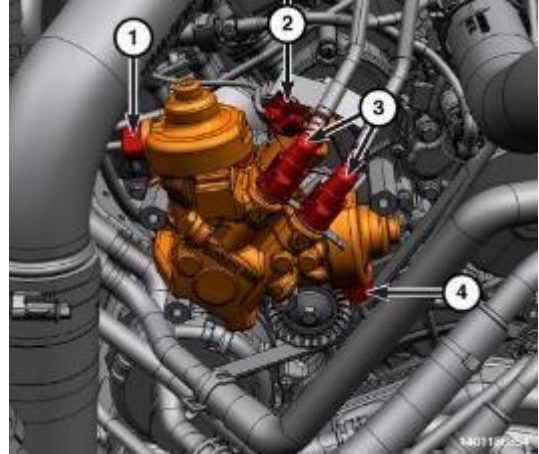

Figure 9 – Pump Connections
16. Disconnect the fuel injection pump wire harness connector (2) (Figure 9).
23. Disconnect the low-pressure fuel supply and return lines (3) (Figure 9).
24. Remove the fuel rail supply tubes (1, 4) (Figure 9).